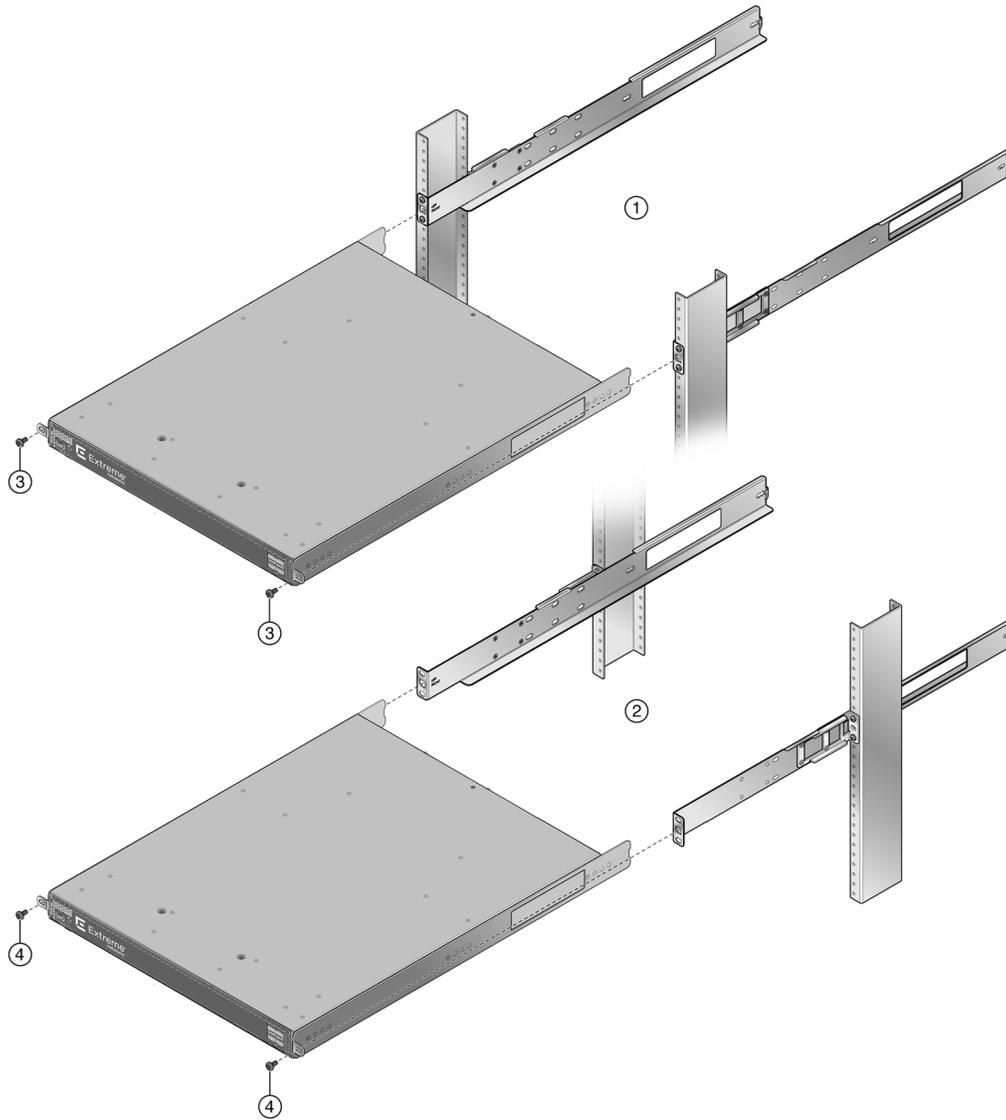

Figure 32: Securing the PV-FC-180 Application Sensor to the Rack
- Slide the chassis onto the rail assembly until the chassis adapter plate ears meet the rail assembly ears. See Figure 32: Securing the PV-FC-180 Application Sensor to the Rack on page 68.